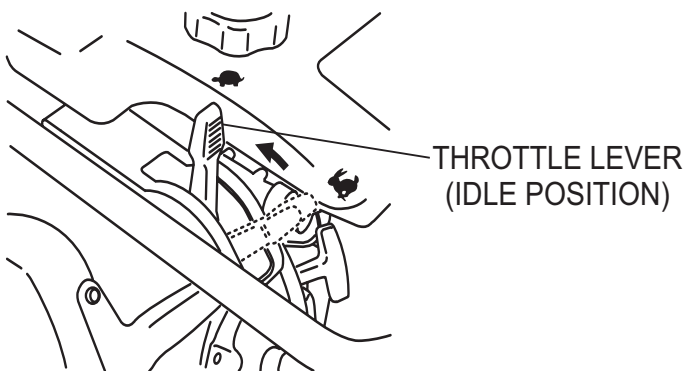
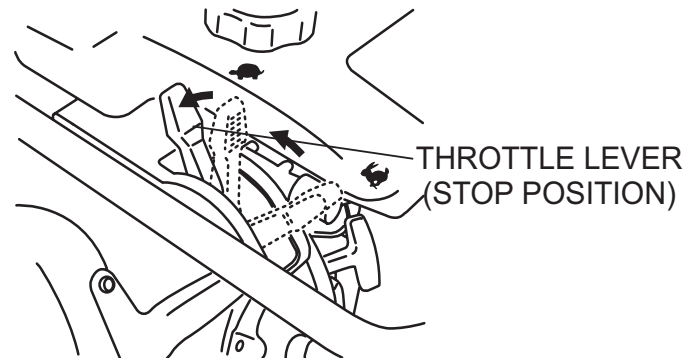

Figure 10. Throttle Lever (Idle Position)
Figure 11. Throttle Lever (Stop Position)
3. To stop the tamping action, move throttle lever quickly from **START** to **IDLE** position (Figure 10).
1. Move throttle lever quickly from the **START** to **IDLE** position (Figure 10) and run the engine for three minutes at low speed. After the engine **cools**, move the throttle lever to the **STOP** position (Figure 11). The engine will stop and the fuel cock is automatically closed.